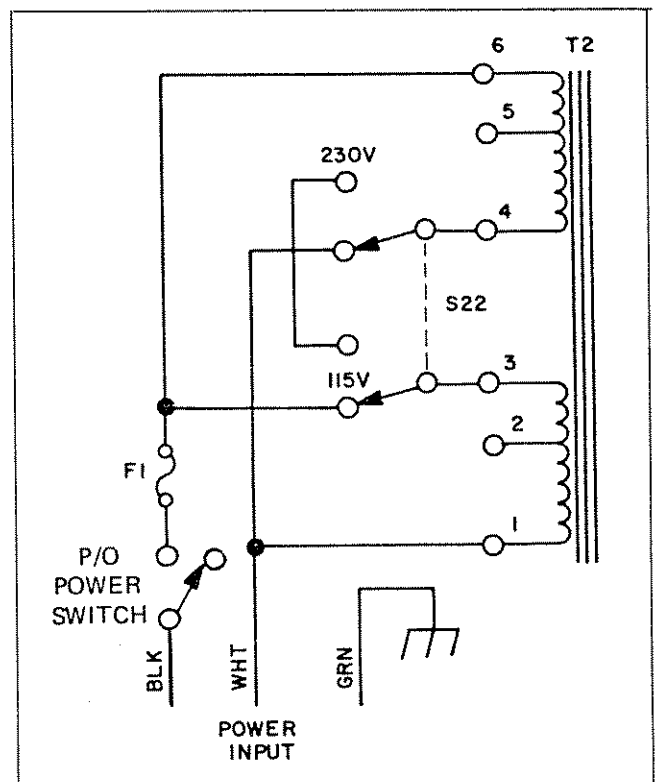

Figure 5. Simplified schematic of primary-power connections, Model 828.
8. If the Model 828 was set at the factory for operation on input power ranges of either 90 to 110 or 180 to 220 Vac, connections were made to terminals 1, 2, 4, and 5 of power transformer T2; if the Model 828 was set for operation at 105 to 120 or 210 to 250 Vac, connections were made to terminals 1, 3, 4, and 6. (See figure 5.)